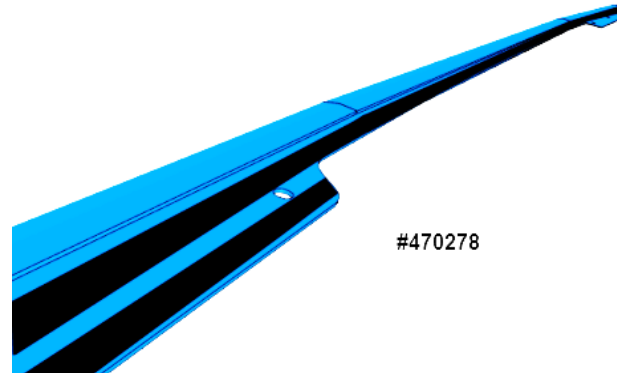

FIGURE 47
6. Apply two strips of double face self-adhesive tape, one to each side of the drilled holes (except in the middle where only one strip can be applied) along drip edge #470278 as shown on FIGURE 47.